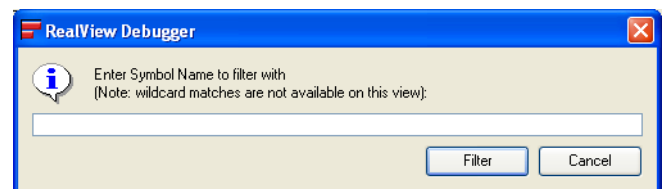

Figure 9-16 Filtering on a symbol name match
1. Select **Filter on Symbol Name...** from the **Filter** menu to display the Prompt dialog box. Figure 9-16 shows an example: